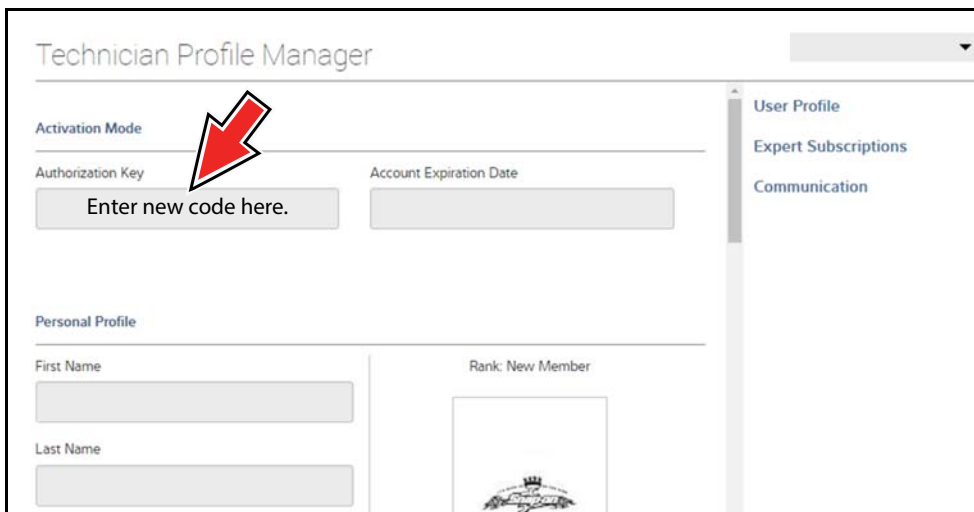

Figure 10-14
3. Log in to the Profile Manger (Figure 10-14) using your current username and password.
4. Enter your new **Authorization code** (Figure 10-14).